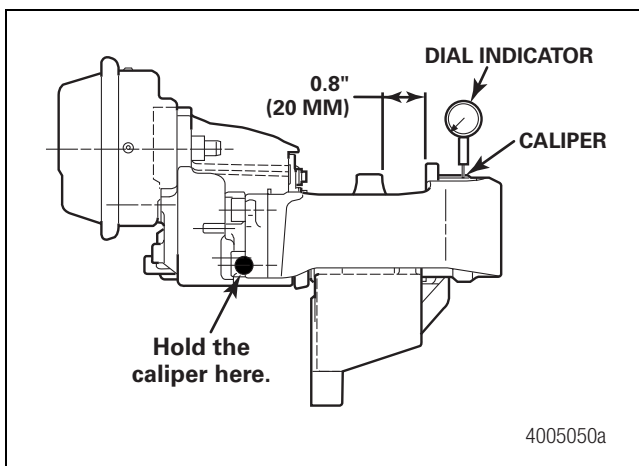
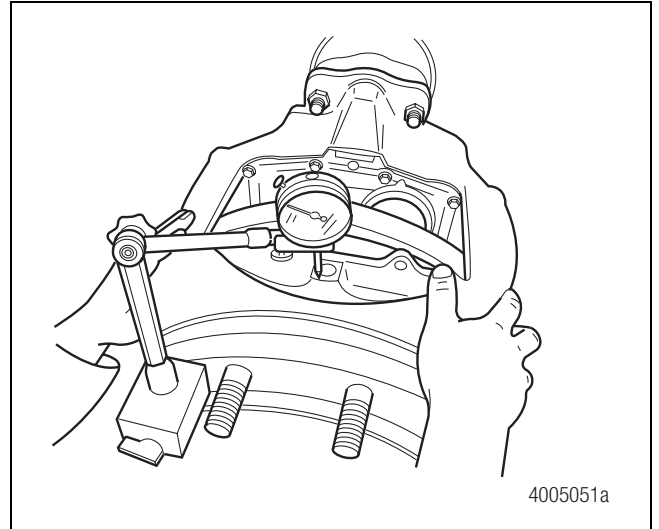

Figure 4.14
Figure 4.15
1. Attach a dial indicator onto the vehicle hub and set it against the caliper. Figure 4.14.
3. Push the brake down by hand as far as possible and set the gauge to ZERO. Figure 4.14 and Figure 4.15.